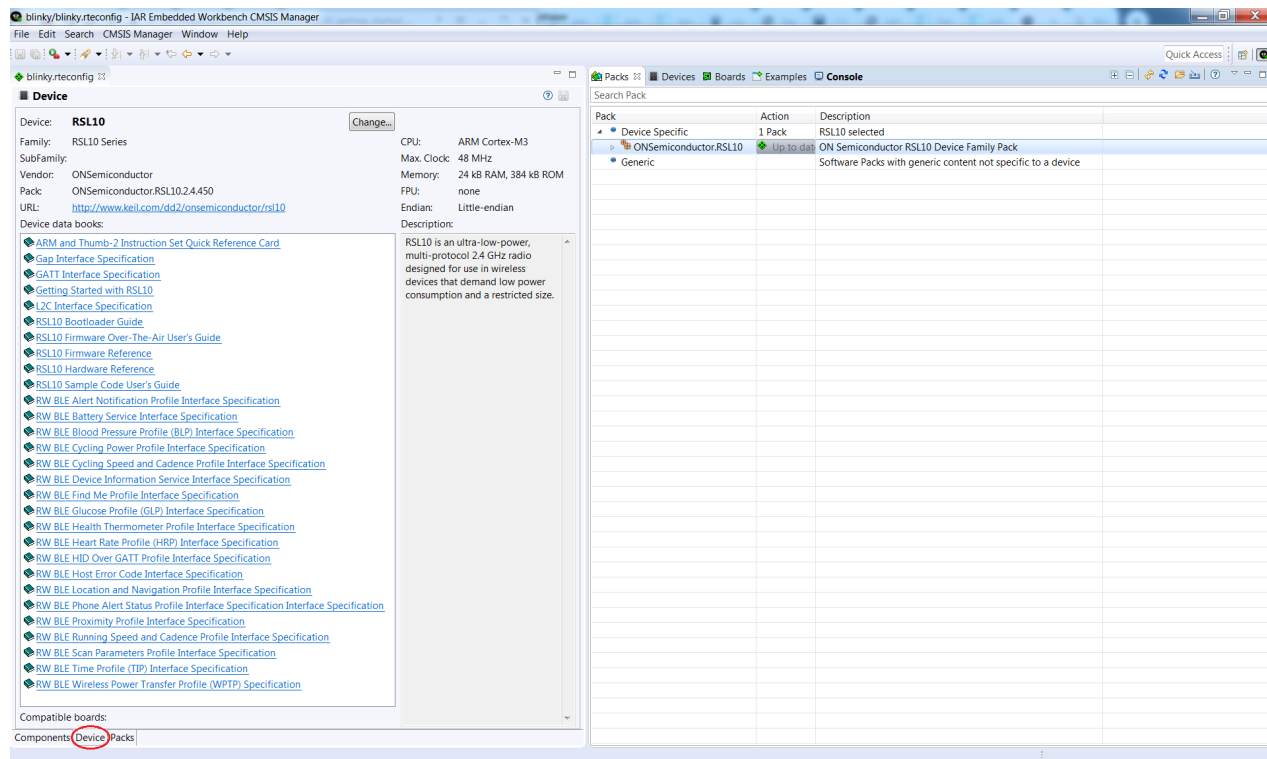

Figure 56. Accessing RSL10 documentation from the IAR Embedded Workbench
- IAR Embedded Workbench: documentation is accessible through the **IAR Embedded Workbench CMSIS Manager** window, as shown in the figure "Accessing RSL10 documentation from the IAR Embedded Workbench" (Figure 56).